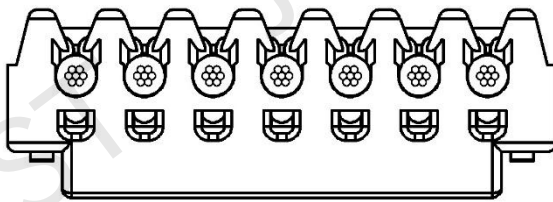
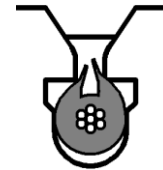

Fig.3
Fig.4 (Appearance example of a large wrinkle)
Wire position must be under the protrusion of the strain relief of the connector as shown in Fig.3. Depending on the hardness of wire insulation and the connector, wrinkles as shown in Fig.4 may appear on wire insulation at the strain relief part of the connector. If wrinkles are found, measure the wire retention force referring to item 6-2 "Wire retention force." When the measured wire retention force satisfies the requirement mentioned in item 6-2, the termination is good.